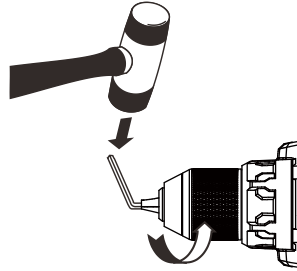

Fig. 15
7. Insert the hex key into the chuck and tighten jaws of chuck securely (Fig. 15). Tap the hex key sharply with a mallet in a COUNTER-CLOCKWISE direction. This will loosen the chuck on the spindle. The chuck can now be unscrewed and removed from the spindle by hand.